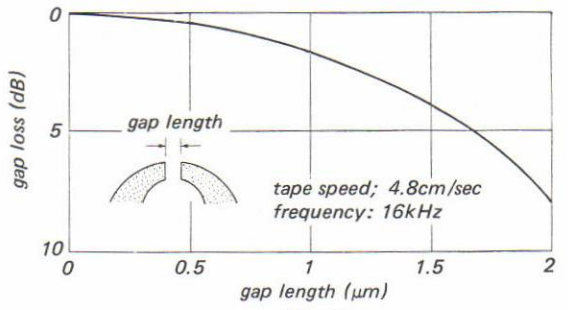

Fig. 7
a) Generally, the gap's length of a head is as short as possible to obtain a maximum gain in the higher-frequency region. This is clearly shown in Fig. 7 below.